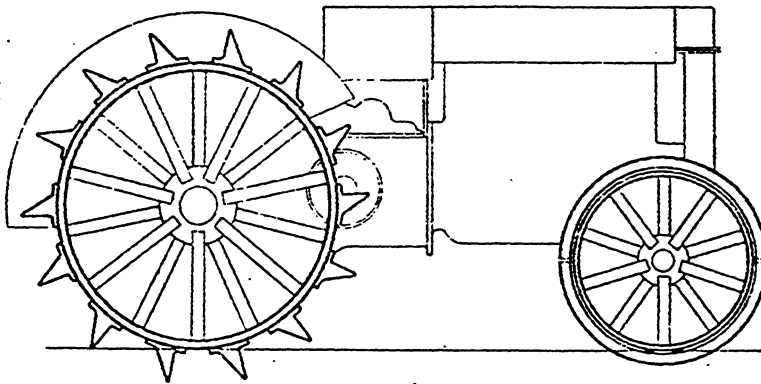

Fig. 1. Spade Lug Equipment
- Fig. 1. If the soil is of a light sandy character and the tractor is loaded near capacity, it is desirable to use special equipment consisting of cast sand lugs 6" high which are illustrated in Fig. 1. These lugs are also good when a tractor is pulling disc harrows or seeding machines on plowed ground. Note that the slanting face of lugs is toward the rear when lugs are in contact with ground.